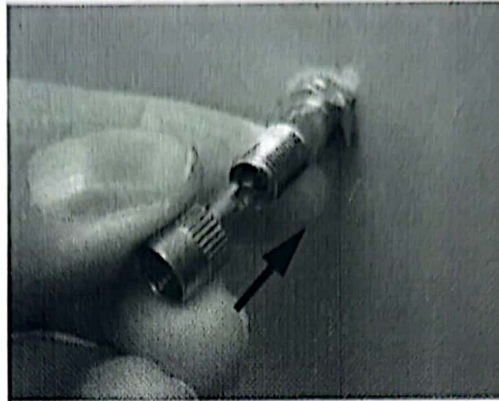

Figure 25 To Let Air Out - Use the End of the Special Cap to Press the Inner Part of the Valve
6. To let air back out through the air valve, use the end of the special cap to press on the inner part of the valve (see Figure 25).